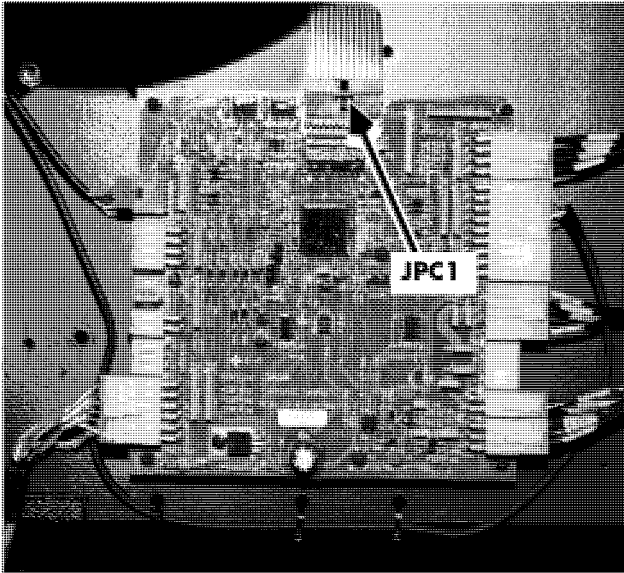

Figure 7-15. Replacing Operator Display
3. Disconnect the JPC1 from carriage manager. See Figure 7-15.
6. Connect JPC1 to carriage manager. See Figure 7-15.